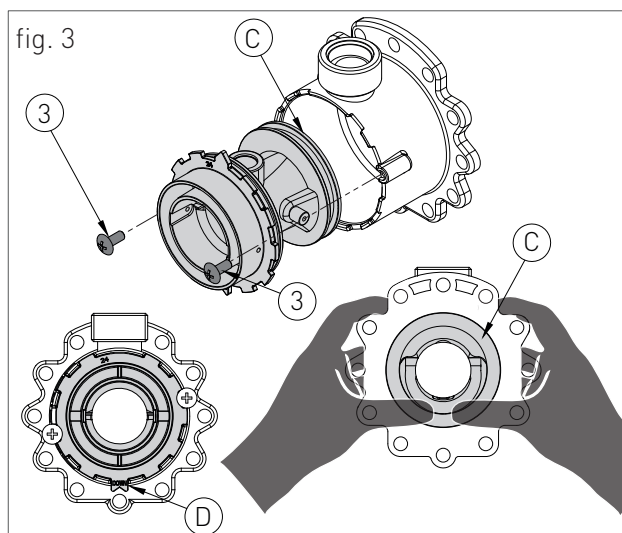

fig. 3
- > remove the two screws '3' (fig.3) and apply pressure on the rear side of venturi 'C' (fig.3);
- > replace the body venturi with the one suitable for the type of supply gas (cod. 30-00207 for methane / cod. 30-00201 for GPL) and make sure the tooth 'D' (fig.3) is adjusted downwards on the aluminium ring nut (see fig.3);